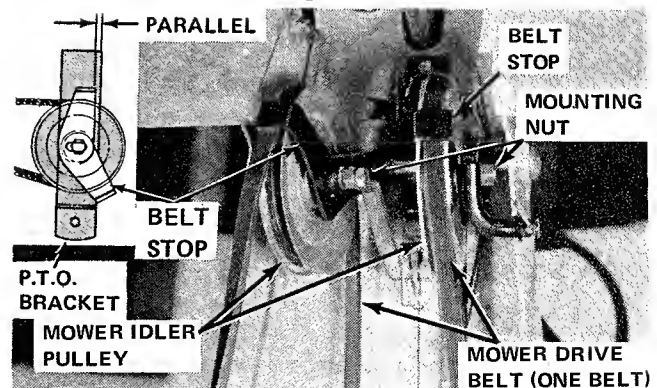

Figure 19.
2. See Figure 19. Loosen belt stop and pulley mounting nuts and position belt stop so that stop fingers allow for belt removal. Remove mower drive belt from mower idler pulleys.